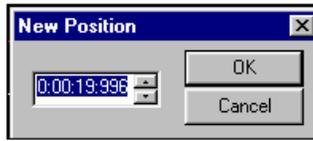

Figure 10
- : Opens the time/position window (See **Figure 10**)
The Time/Position window is accessed by clicking the  button (see **Figure 10**).